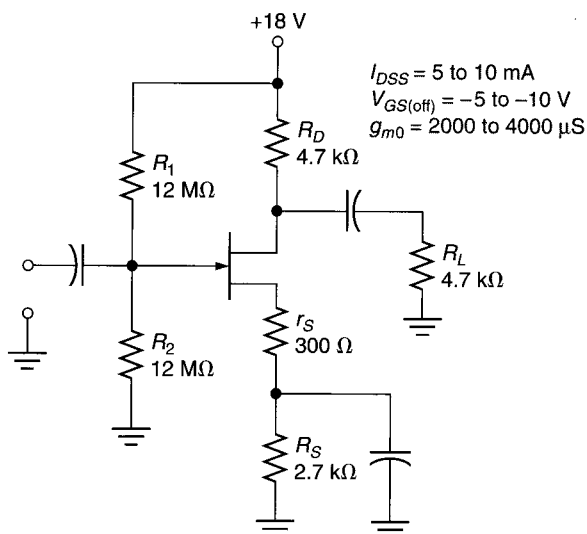

FIGURE 12.64
35. Determine the range of  $A_v$  values for the swamped amplifier shown in Figure 12.64.